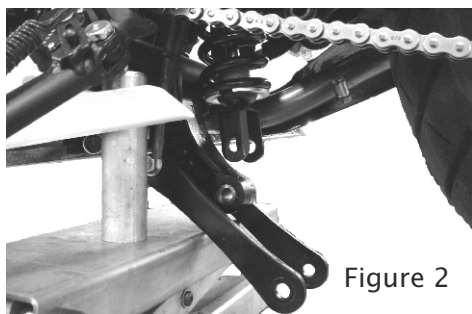

Figure 2
3. Allow the Uni-Trak rocker and linkage to swing down out of the way (figure 2).